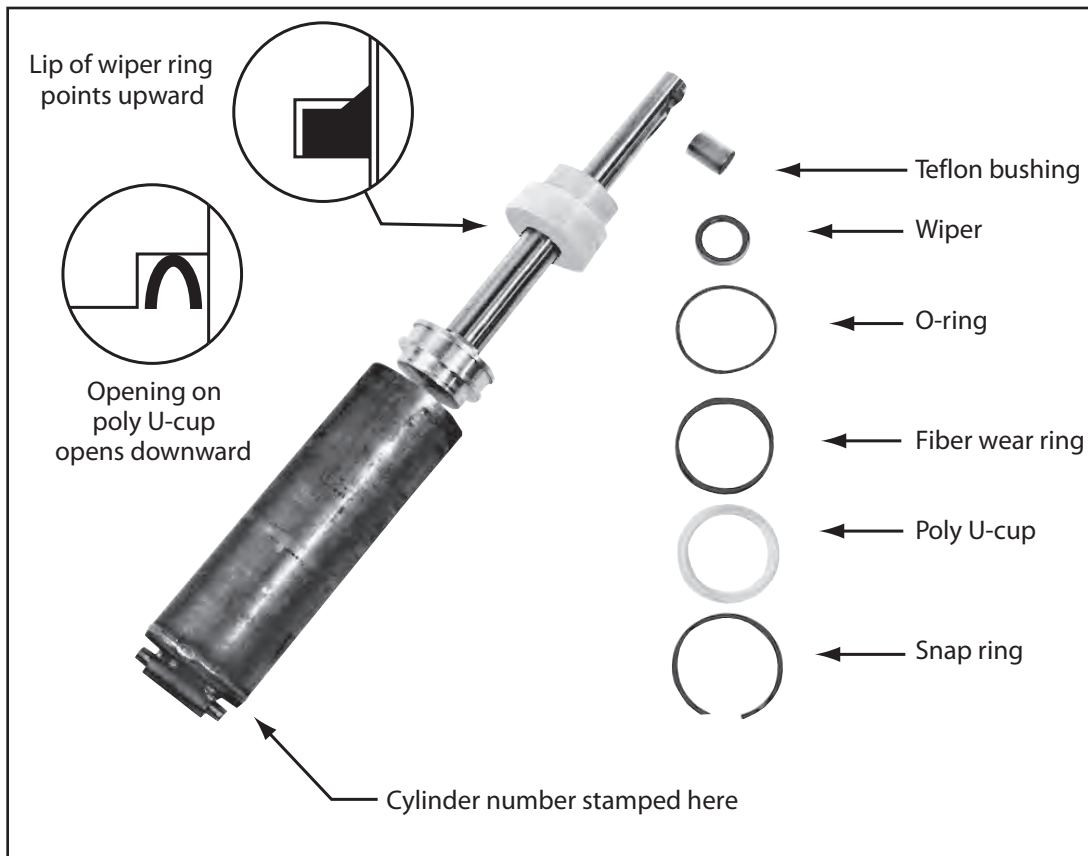

Figure 8 – H-Style Cylinder
This section will tell you how to repack a cylinder, shown in Figure 8. This type of cylinder is exclusive to LiftCOA, and repacking kits are only available through LiftCOA. To order a repacking kit, please call the Parts Department at 812-222-2005. When ordering, specify the model number and serial number of the lift, and the cylinder number(s), as listed on the base of the cylinder(s).
7. Fig. 8 shows the parts inside a lift cylinder. At the upper end of the cylinder, remove the snap ring. Pull the rod and piston all the way out of the cylinder. This assembly is heavy! Be careful not to drop it as it comes free.
Be careful not to install the wiper backwards. The lip on the wiper should point upwards, as shown in the detail in Figure 8.